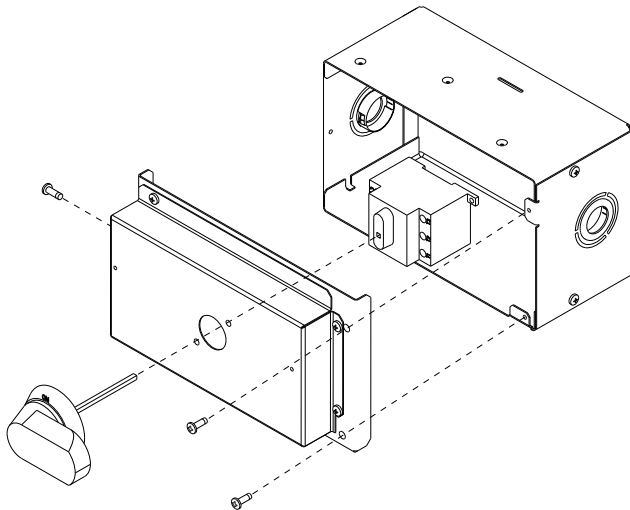

Fig. 20 — NFD Handle and Shaft Assembly
2. Remove (3) cap head screws that secure the NFD enclosure front cover — (2) on the face of the cover and (1) on the left side cover. See Fig. 20.
5. Insert the shaft with the cross pin on the top of the shaft in the horizontal position. See Fig. 20.
10. Secure the handle to the painted cover with (2) screws and lock washers supplied.
11. Engaging the shaft into the handle socket, re-install (3) cap head screws on the NFD enclosure.